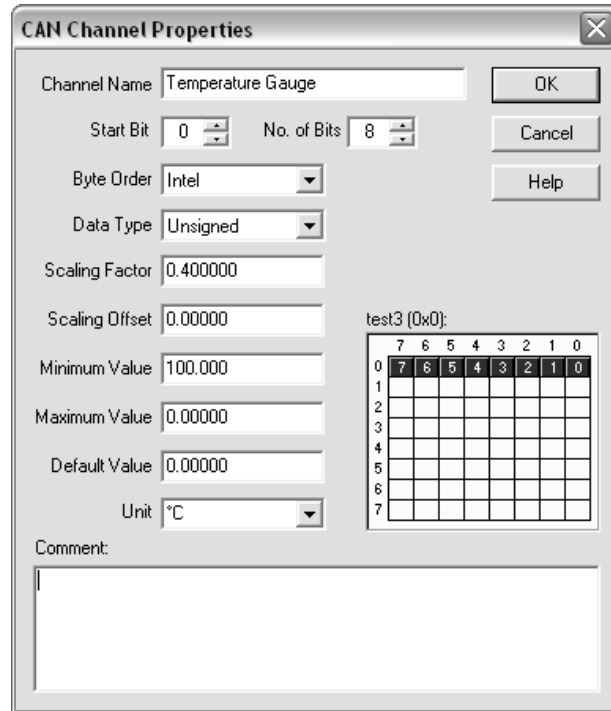

Figure C-8. Explicit Channel Configuration in MAX
3. Right-click the message name and select **Create Channel**. A configuration box appears similar to the one shown in Figure C-8. As you enter information about Start Bit and No. of Bits, the matrix is populated with dimmed boxes to indicate the bits that have already been used in channel definitions for that message. Blue boxes indicate the bits that are currently being defined.